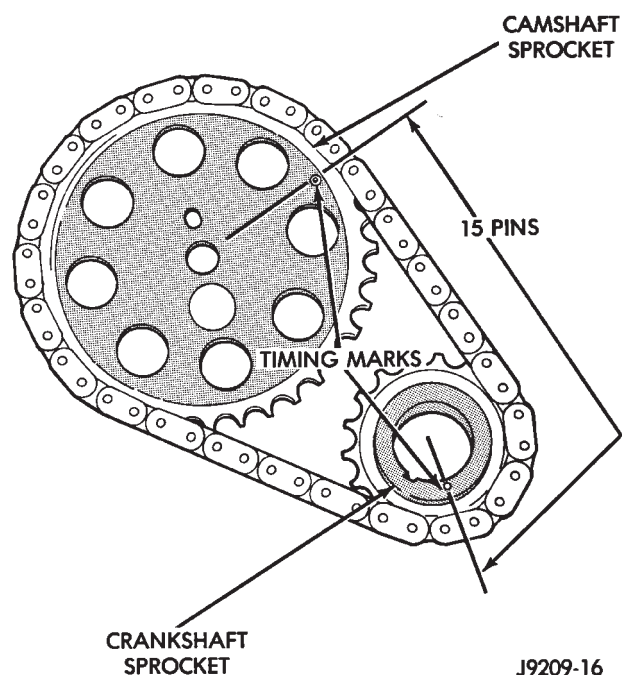

Fig. 12 Verify Crankshaft/Camshaft Installation
- (5) To verify correct installation of the timing chain, turn the crankshaft to position the camshaft sprocket timing mark as shown in Fig. 12. Count the number of chain pins between the timing marks of both sprockets. There must be 15 pins.
- (6) Install the crankshaft oil slinger.
- (7) Tighten the camshaft sprocket preload bolt to 108 N•m (80 ft. lbs.) torque.
- (8) Check the valve timing.
- (9) Lubricate the tension spring, the thrust pin and the pin bore in the preload bolt with Mopar Engine Oil Supplement, or equivalent. Install the spring and thrust pin in the preload bolt head.
- (10) Coat both sides of the replacement timing case cover gasket with gasket sealer. Apply a 3 mm (1/8 inch) bead of Mopar Silicone Rubber Adhesive Sealant, or equivalent to the joint formed at the oil pan and cylinder block.